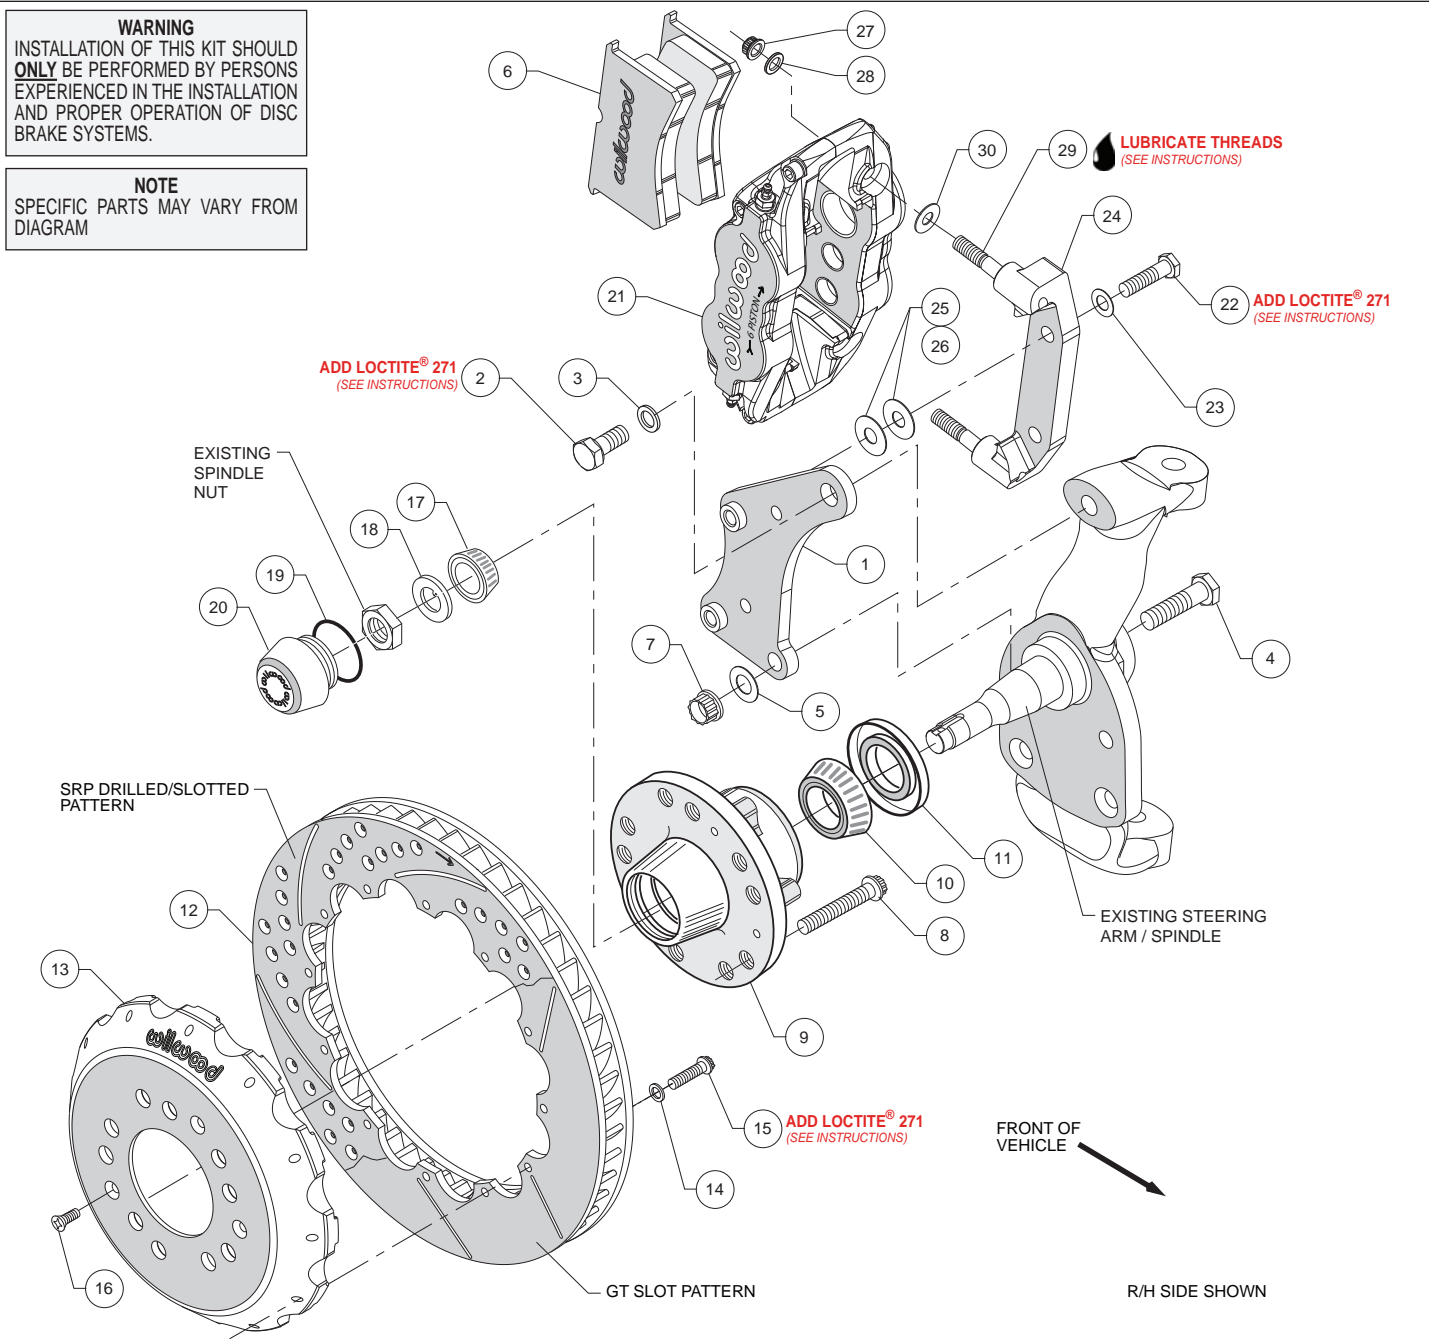

Figure 1. Typical Installation Configuration
- Mount the radial mount caliper bracket (24) to the first “flat” caliper mounting bracket (1) from the far side by sliding bolt (22) through washer (23). Place two .030 thick flat washers (26) between the two brackets (1 and 24) before sliding the mounting bolts (22) all the way into the first caliper mounting bracket (1). Finger tight only.
- NOTE:** This kit contains distinct right and left hand calipers that must be mounted in a specific direction, as described below. Lubricate caliper mounting studs (29) and nuts (27) with lightweight oil. Install one shim (30) over each stud (29) on the radial mount bracket (24). Slide the caliper (21) in place over the studs and rotors and install the washer (28) and lock nut (27) to hold the caliper in place, Figure 1. Ensure that the caliper is mounted so that the largest pistons are at the rotor exit end of the caliper, in relation to the direction of rotor rotation. Snug the lock nuts (27) and check that the rotor (12) is centered in the caliper (21). Add or subtract .030" shims (26), or add additional .015" shims (25), as necessary between the radial mount bracket (24) and the flat bracket (1) to center the caliper. Finger tighten and recheck alignment. Use as many shim washers (combination of 25 and 26) as necessary to achieve the correct alignment. Apply red *Loctite*® 271 to bolt threads (22) and torque to 60 ft-lb.